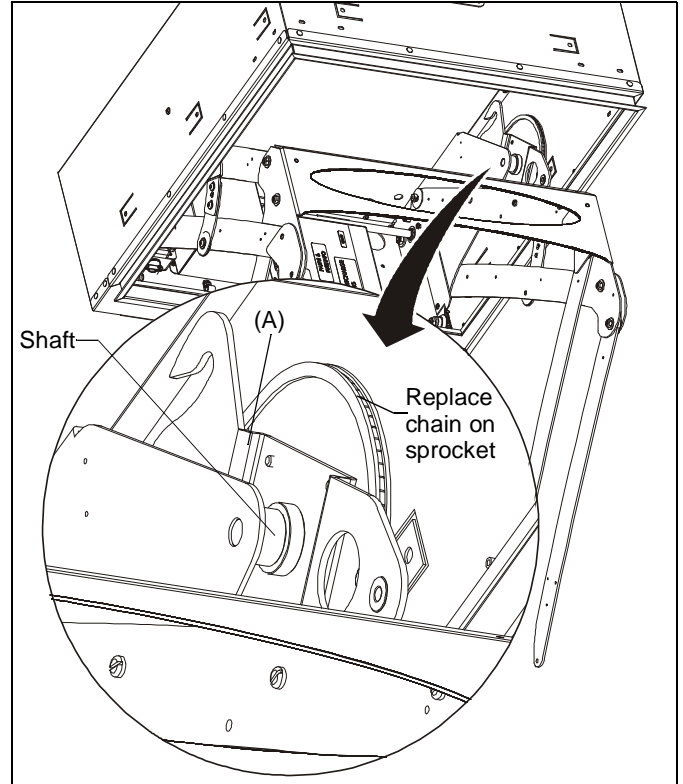

Figure 9
1. Transfer marks from sprocket on removed lift weldment assembly to sprocket on new lift weldment assembly (A).
2. Use supplied grease packet (K) to lubricate center hole in new lifting weldment assembly (A).
3. Install new lift weldment assembly (A), placing chain onto large sprocket.
4. Place lift shaft into center bearing of new lift weldment assembly (A). (See Figure 9)